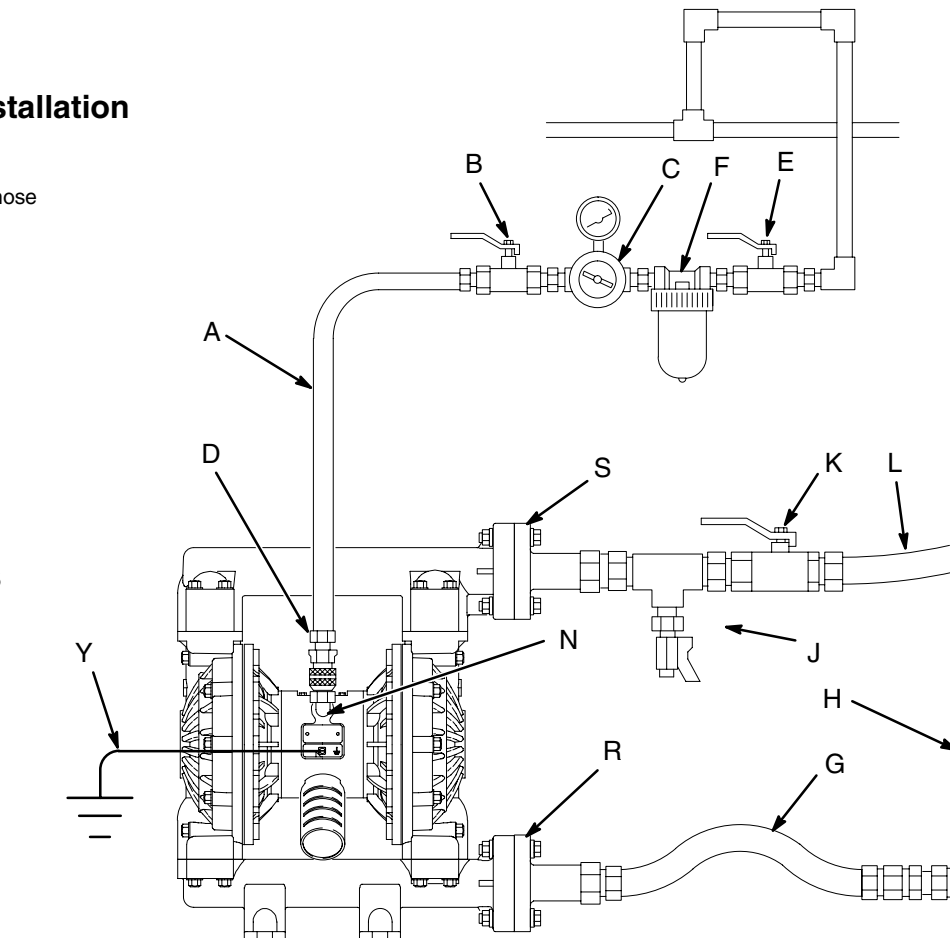

Fig. 2
- The Typical Installation shown in Fig. 2 is only a guide for selecting and installing system components. Contact your Graco distributor or Graco Technical Assistance (see back page) for assistance in planning a system to suit your needs.
A bleed-type master air valve (B) is required in your system to relieve air trapped between this valve and the pump. Trapped air can cause the pump to cycle unexpectedly, which could result in serious injury, including splashing in the eyes or on the skin, injury from moving parts, or contamination from hazardous fluids. See Fig. 2.
1. Install the air line accessories as shown in Fig. 2. Mount these accessories on the wall or on a bracket. Be sure the air line supplying the accessories is electrically conductive.
- a. Install an air regulator (C) and gauge to control the fluid pressure. The fluid outlet pressure will be the same as the setting of the air regulator.
- b. Locate one bleed-type master air valve (B) close to the pump and use it to relieve trapped air. See the **WARNING** at left. Locate the other master air valve (E) upstream from all air line accessories and use it to isolate them during cleaning and repair.
- c. The air line filter (F) removes harmful dirt and moisture from the compressed air supply.
2. Install an electrically conductive, flexible air hose (A) between the accessories and the 1/2 npt(f) pump air inlet (N). See Fig. 2. Use a minimum 1/2" (13 mm) ID air hose.
3. Screw an air line quick disconnect coupler (D) onto the end of the air hose (A); be sure the coupler porting is large enough to not restrict the air flow, which will affect pump performance. Screw the mating fitting into the pump air inlet snugly. Do not connect the coupler (D) to the fitting until you are ready to operate the pump.
KEY FOR FIG. 2
A fluid drain valve (J) is required to relieve pressure in the hose if it is plugged. The drain valve reduces the risk of serious injury, including splashing in the eyes or on the skin, or contamination from hazardous fluids when relieving pressure. Install the valve close to the pump fluid outlet. See Fig. 2.
1. The pump fluid outlet (S) is a 1–1/2 in. raised face flange. Refer to **Flange Connections** on page 8.
2. Install a fluid drain valve (J) near the fluid outlet. See the **WARNING** above.
3. Install a shutoff valve (K) in the fluid outlet line.